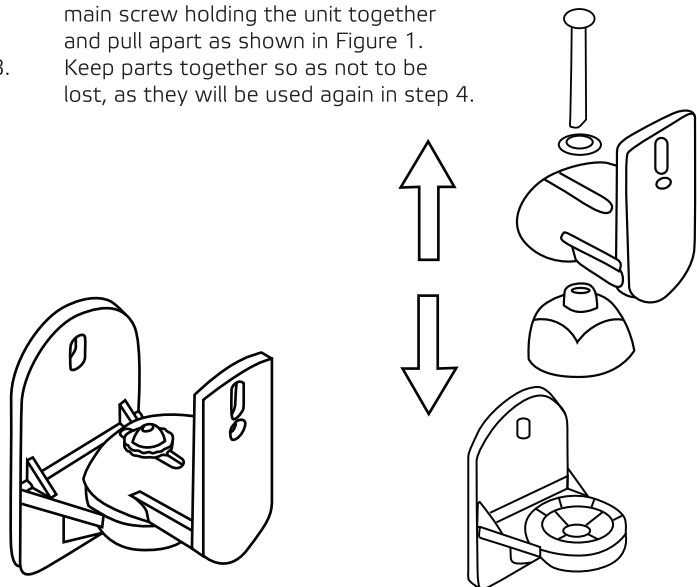

Figure 1
2. Separate by unscrewing the main screw holding the unit together and pull apart as shown in Figure 1.